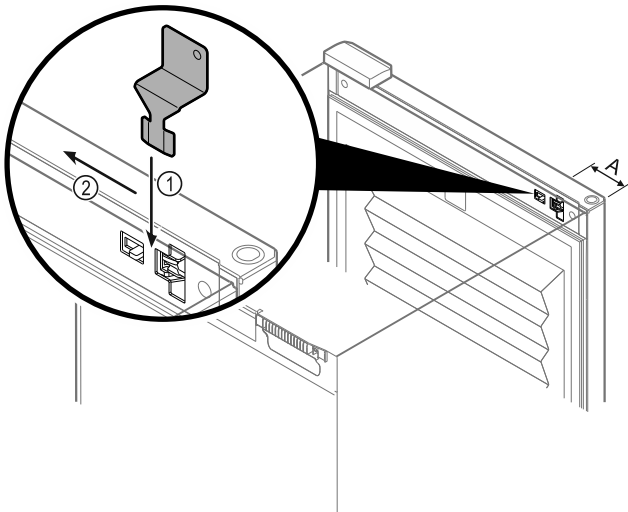

Fig. 79
- ▶ Insert the emergency release key in the specified position Fig. 79 (A) ≈ 100 mm (3 15/16 in).
- ▶ Insert the emergency release key Fig. 79 (1) from the top between the door and device body until it reaches the stop.
- ▶ Pull the emergency release key in the direction of the hinge. Fig. 79 (2)